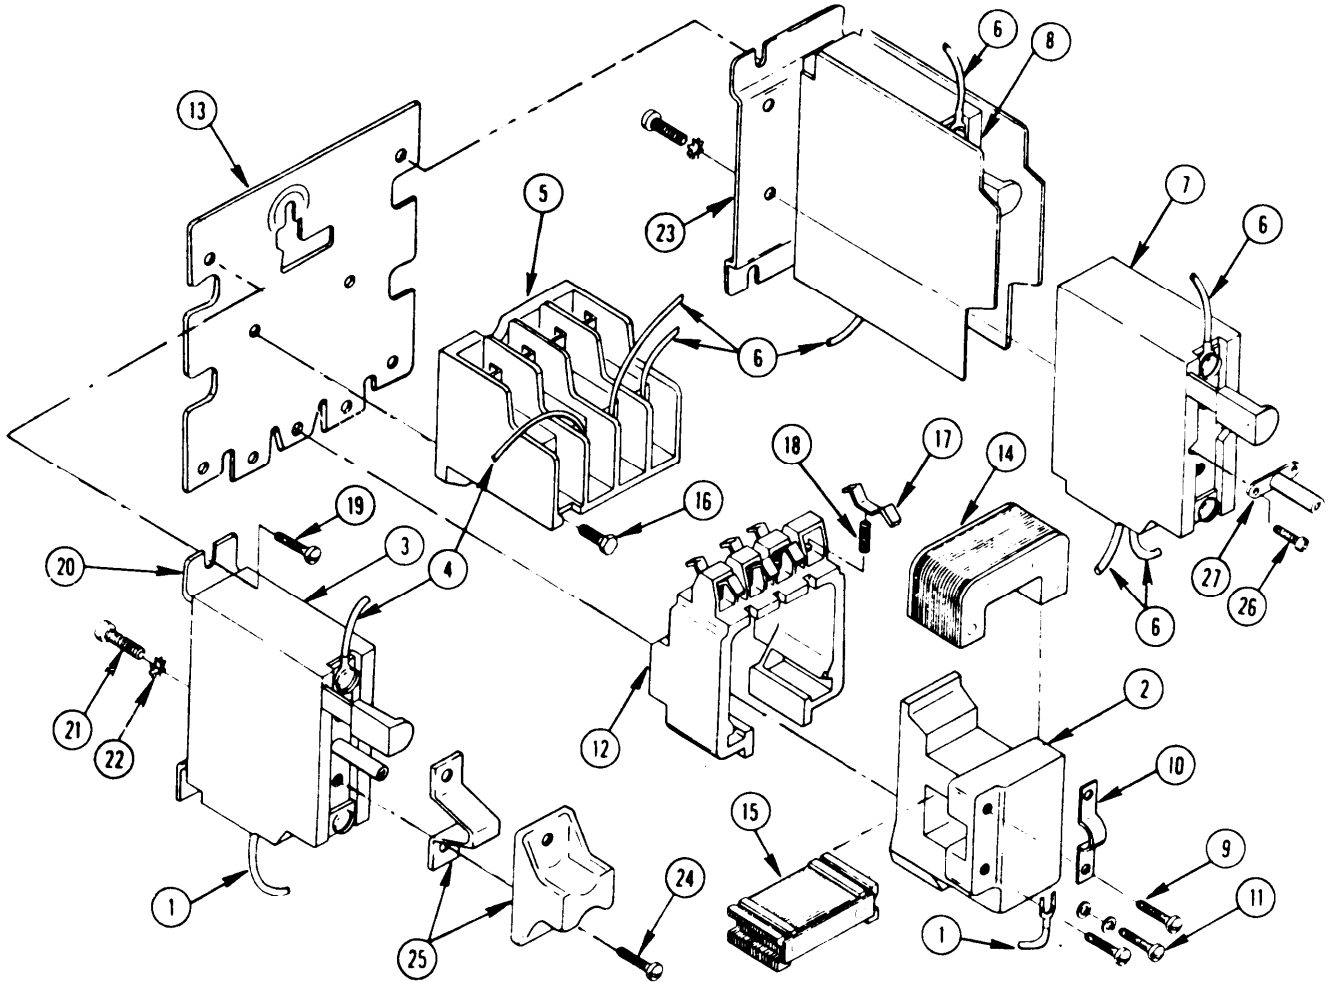

Figure 3-12 Motor starter, 1 HP and 1/3 HP
c. Dissassembly. (Figure 3-12) (Refer to Schematic, Figure 1-12)
- (2) Replace damaged or unserviceable overload relays.
- (3) Repair, straighten, rework, or replace mounting brackets with minor dents, bends, or breaks.
g. Reassembly. (Figure 3-12)
- (1) Position spindle (27) of overload relay (7) and install with two screws (26).
- (2) Position heating element (25) on overload relay (3) and install with two screws (24).
- (3) Position mounting bracket (20) on overload relay (3) and install with two screws (21) and two lockwashers (22).
- (4) Position mounting bracket (20), with overload relay (3) attached, on base (13) and install with two screws (19).
- (5) If applicable, repeat steps (1) thru (4) for the two additional overload relays (7) and (8) and mounting bracket (23).
- (6) Position stationary contact block assembly (5) on base (13) and install with two bolts (16)
- (7) Install movable contacts (17) and springs (18) into movable contact support assembly (12).